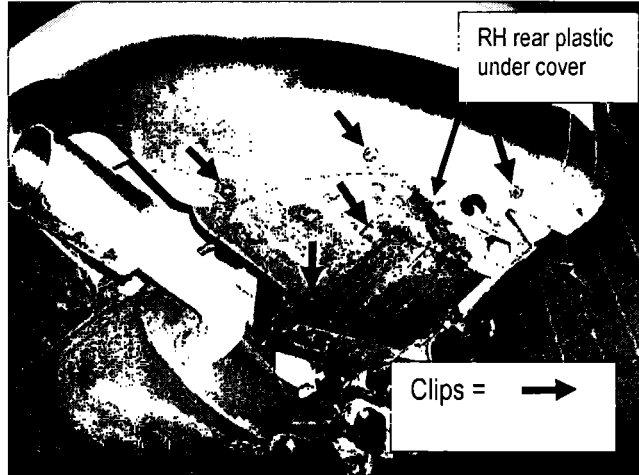

Figure 3
7. On the passenger (RH) side: release clips and remove the rear plastic under cover (see Figure 3).